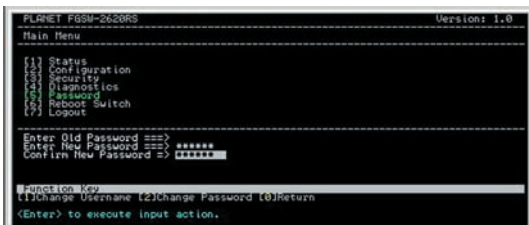

Figure 3-23 Change password Screen
- 4 Please press "2" key to change the password, the screen in figure 3-23 & 3-24 appears.